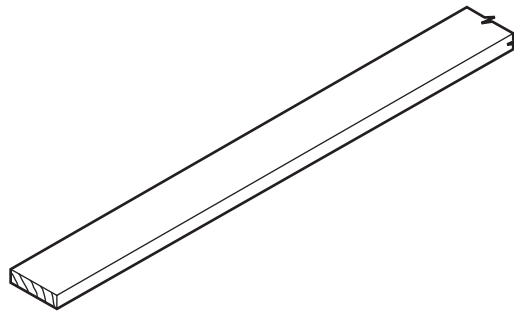

Fig. 3
- (a) The keys are marked out and cut from a long length of hardwood shown in Fig. 3.